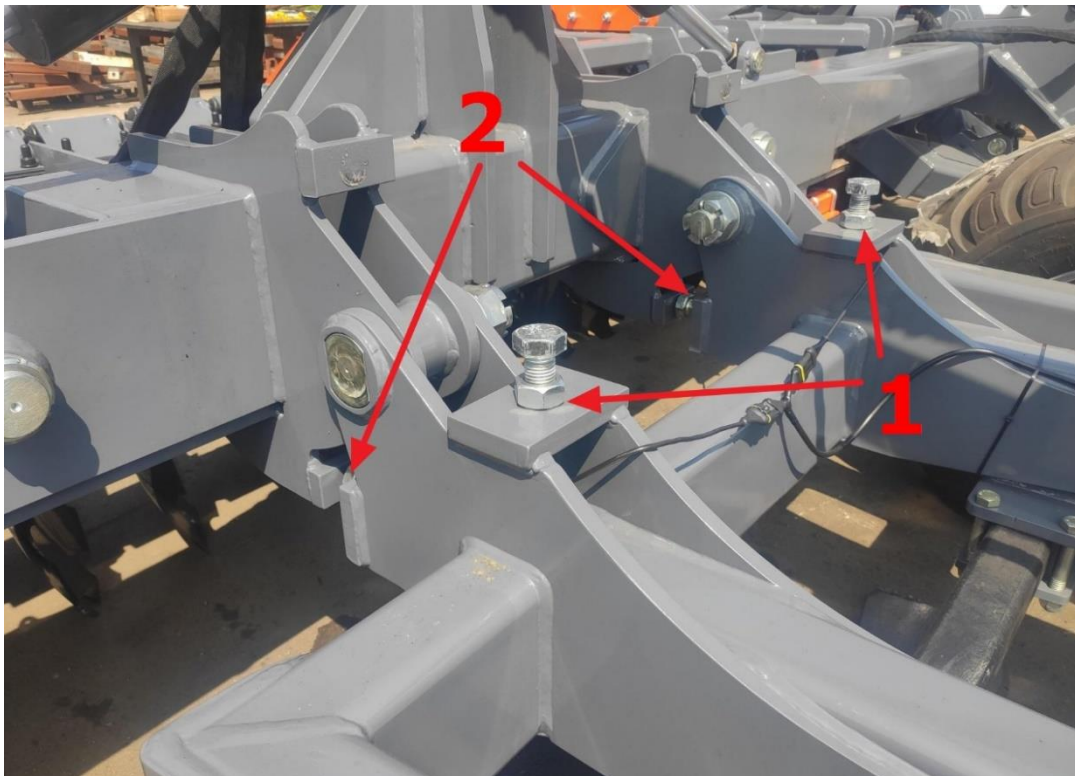

Fig. 26 Placing the machine wing adjustment screws in position when: 1-Machine wings are folded, 2- Machine wings are unfolded.
Levelling the machine is also possible thanks to the adjustment screws at the rear of the chassis. The vertical bolts (item 1, fig. 26) adjust the position of the disc harrow when the machine is folded. The horizontal screws (item 2, fig. 26) adjust the level of the disc harrow when the machine is unfolded.